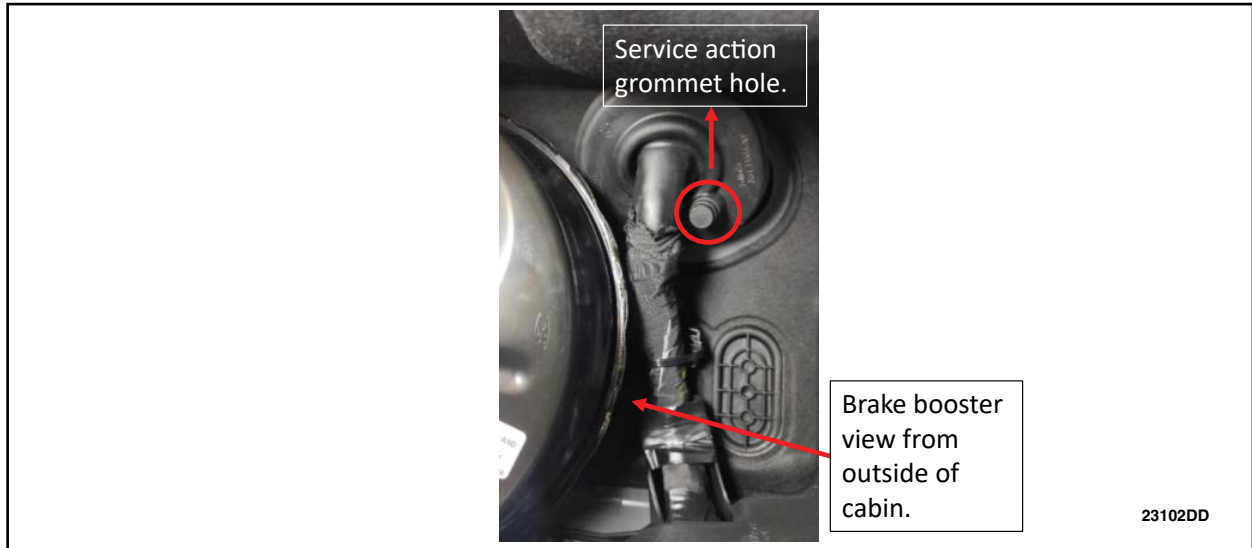

FIGURE 15
18. Using pliers, cut the service action hole at the grommet. See Figure 15.